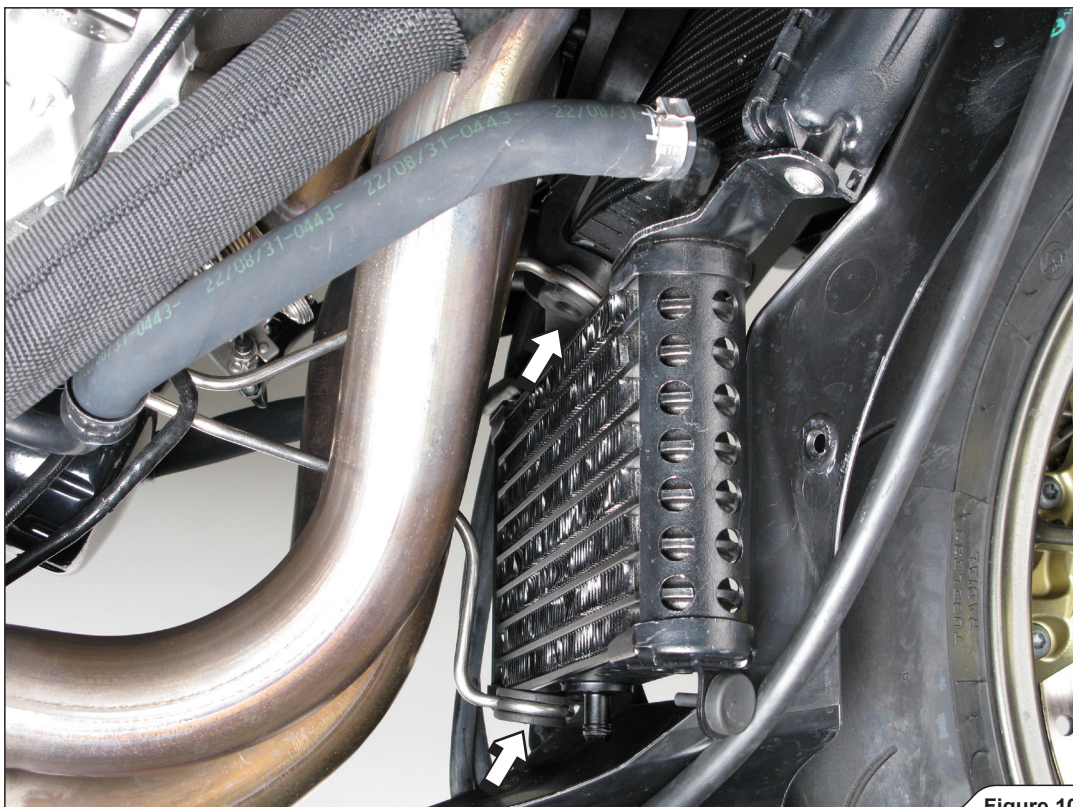

Figure 10
7. Pull the radiator's bracket off the radiators (Figure 10).